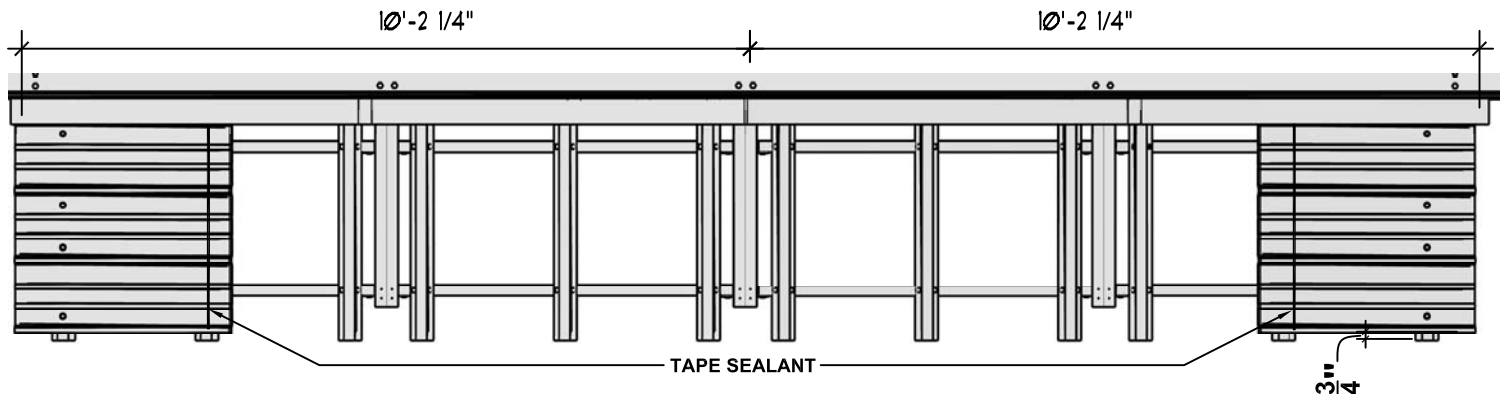

FIGURE 15
1. Place the End Roof Sheets back on the Hat Purlins. Slide the sheet toward the wall panel allowing $\frac{3}{4}$ " from the end of the Hat Purlins per **Figure 15**. Align the bottom of the panel with the end of the Transition Flashing. Square panel with canopy framing. Attach Roof Panel to lowest Hat Purlin with Structural Screws per **Figure 15**.
- Place a strip of Tape Sealant (M-061-00) across the top of the End Roof Sheets (C-042-00) just below the bottom edge of the second Hat Purlin per **Figure 15**.